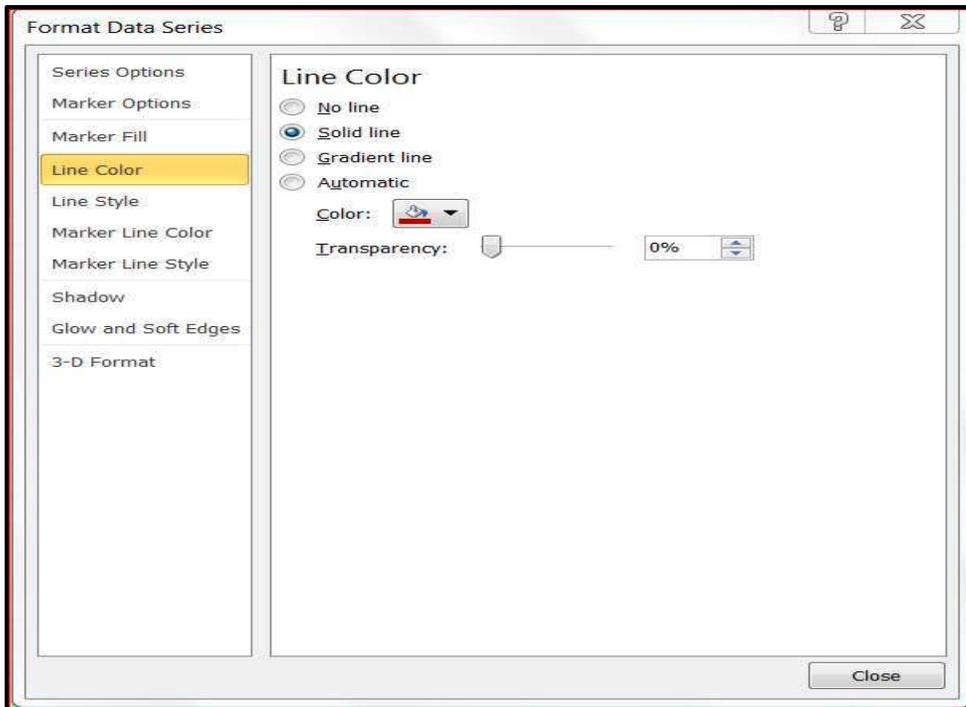

Figure 7
- ⇒ Click on the arrow at the right end of the Color list box to display the color palette and choose the color Dark Red, which is in the left-most color under Standard Colors in the color palette, as illustrated in Figure 7.